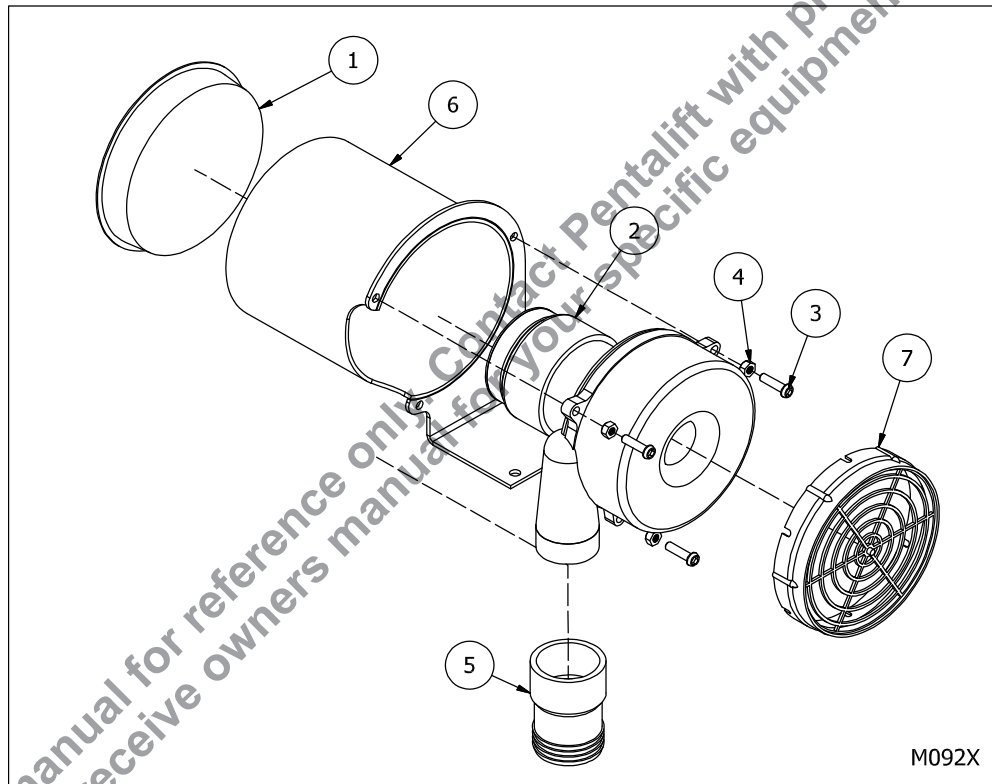

Figure 61: Blower Assembly Replacement Parts
2. Inspect the outward facing surface of the Air Filter Assembly. (“Figure 61: Blower Assembly Replacement Parts” on page 66) If dirt or debris is present replace with a new air filter (Available through your Pentalift representative). Alternatively it can be cleaned with an air pressure line, blowing from the inside portion of the filter assembly through the filter away from your body. Ensure you **DO NOT** blow the high pressure air in the direction of your skin or in the direction of any other persons.